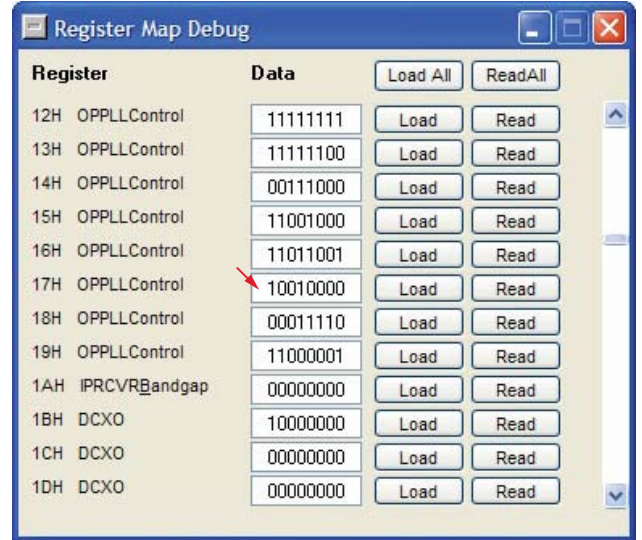

Figure 23. Register Debug Window
10. From the **View** menu in the main window, select **Register Debug Window**. The window shown in Figure 23 appears.